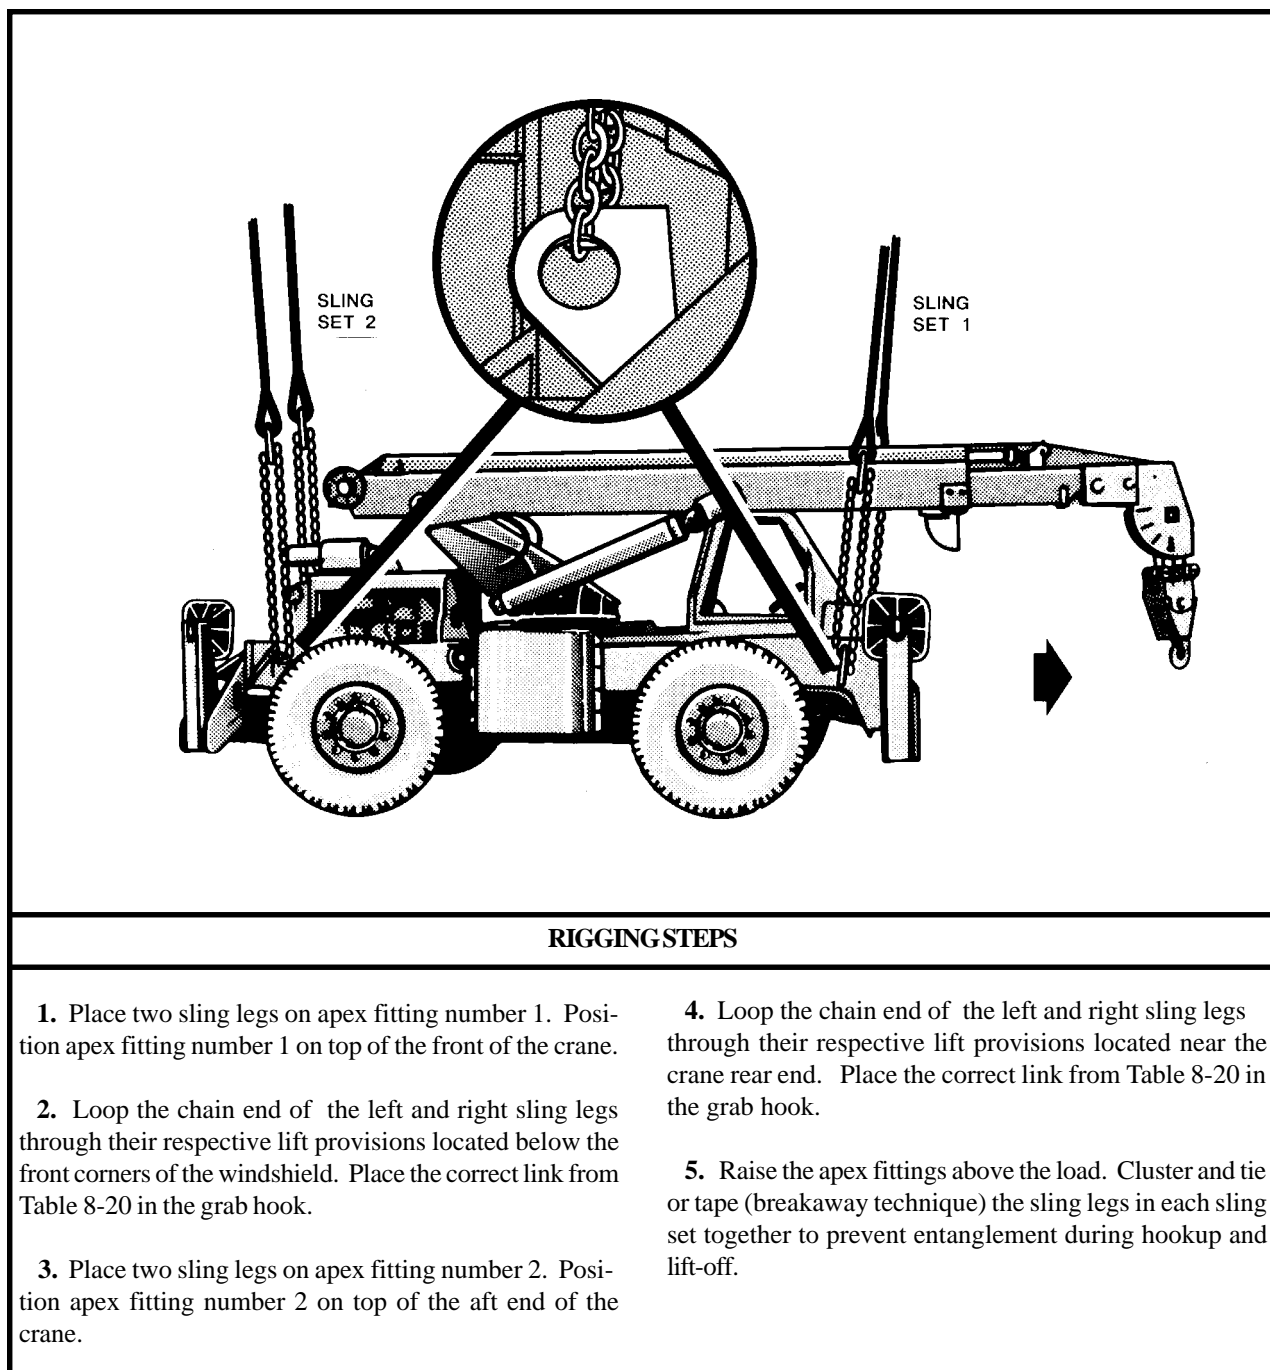

Figure 8-20. SP-7 Wheel-Mounted Crane
(2) **Rigging.** Rig the load according to the steps in Figure 8-20.
(4) **Derigging.** Derigging is the reverse of the preparation and rigging procedures in steps d (1) and d (2).